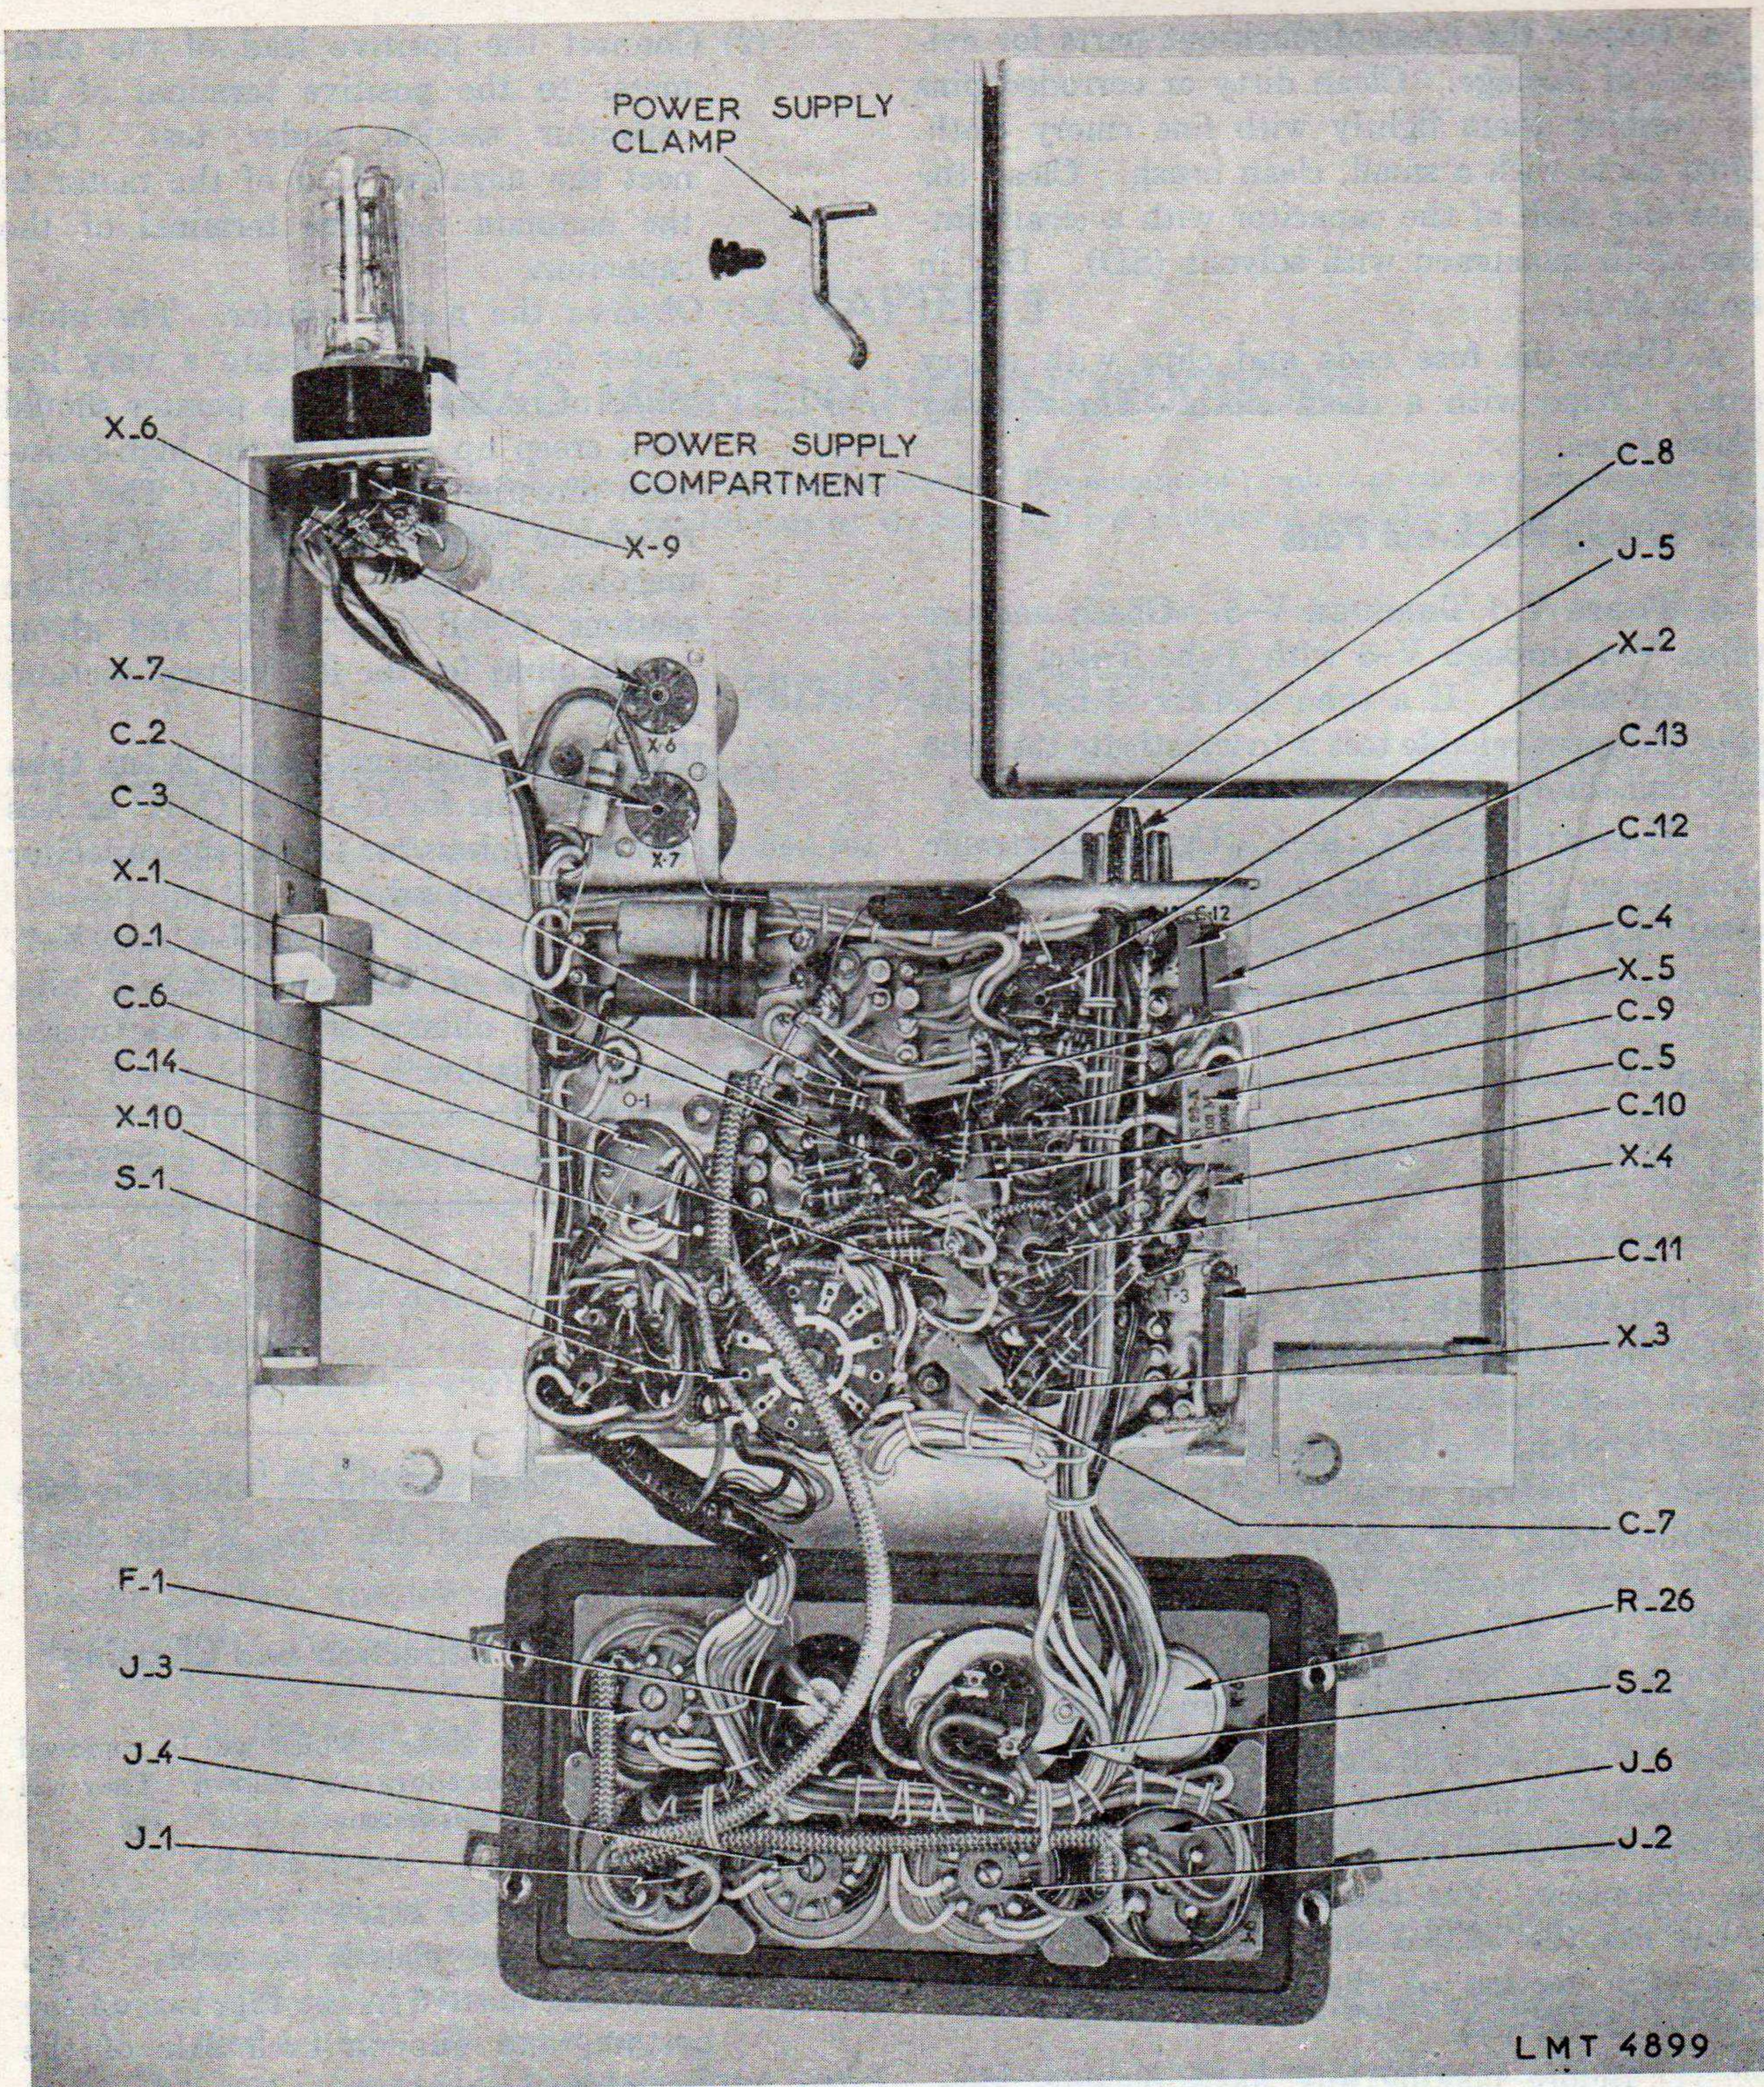

Figure 11. AF Amplifier AM-65/GRC, disassembled view.
- (1) Loosen the clamp bracket at the rear of the power supply compartment (fig. 11).
- (2) Pull the power supply unit out of the compartment. A handle is provided on the power supply unit for this purpose.
(Fig. 11)